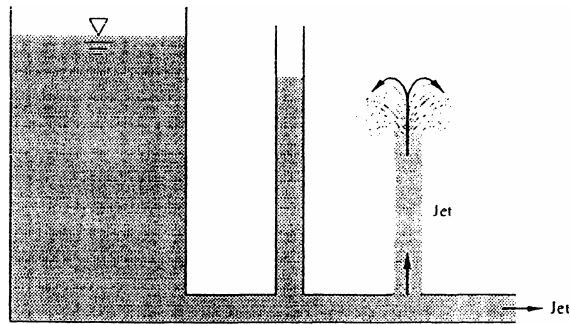

Fig. P3.155
3.155 Bernoulli's 1738 treatise *Hydrodynamica* contains many excellent sketches of flow patterns. One, however, redrawn here as Fig. P3.155, seems physically misleading. What is wrong with the drawing?